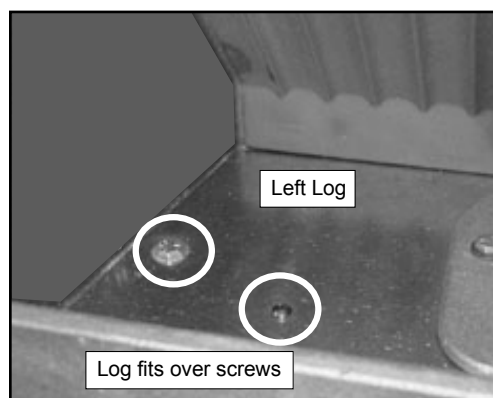

Figure 47.1
1. Place the left log as shown. There are 2 indentations in the bottom of the log to fit over the screw heads in the firebox. **Figures 47.1 and 47.2.**